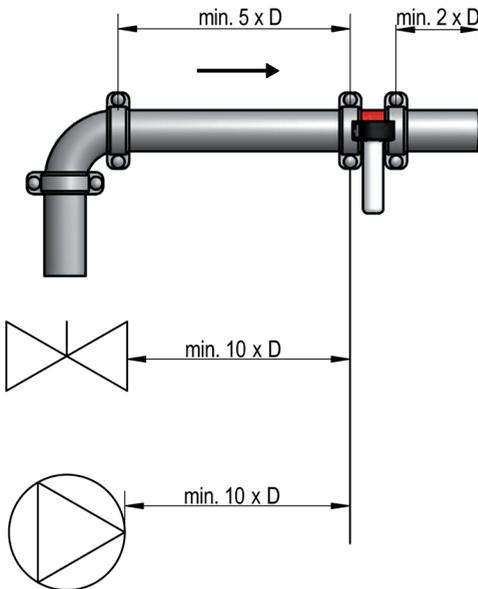

Fig. 3 Inlet path and outflow zone
When using valves, fittings, ... before the orifice plate, an inlet path of $\text{min. } 10 \times D$ is always required. The outflow zone has to be $\text{min. } 2 \times D$ (fig. 3).
- » An inlet path of $\text{min. } 10 \times D$ is required if a valve, fitting or T-piece pipe is mounted before, where at least $5 \times D$ must be available as a straight inlet section directly in front of the orifice plate (fig. 3).